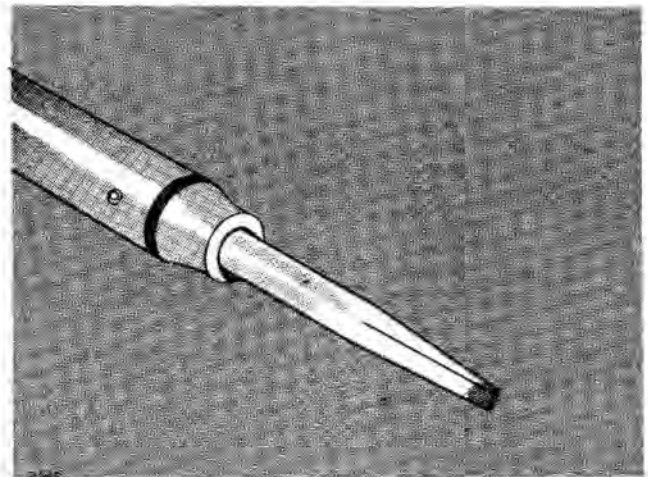

Fig. 5-1. Soldering iron tip properly shaped and tinned.
Because of the shape of the terminals on the ceramic strips it is advisable to use a wedge-shaped tip on your soldering iron when you are installing or removing parts from the strips. Fig. 5-1 will show you the correct shape for the tip of the soldering iron. Be sure and file smooth all surfaces of the iron which will be tinned. This prevents solder from building up on rough spots where it will quickly oxidize.
2. Prepare the tip of the iron as shown in Fig. 5-1.